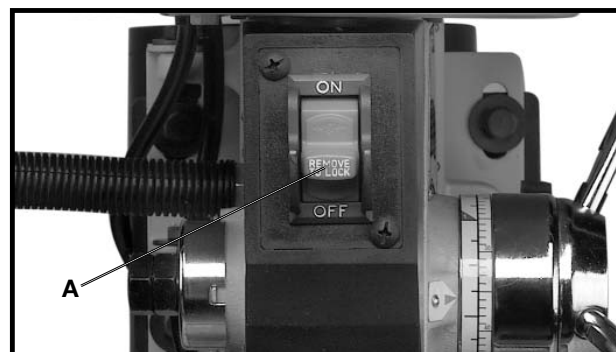

Fig. 18
The switch (A) Fig. 18, is located on the front of the drill press head. To turn the drill press "ON" move the switch up to the "ON" position. To turn the drill press "OFF" move the switch down to the "OFF" position.